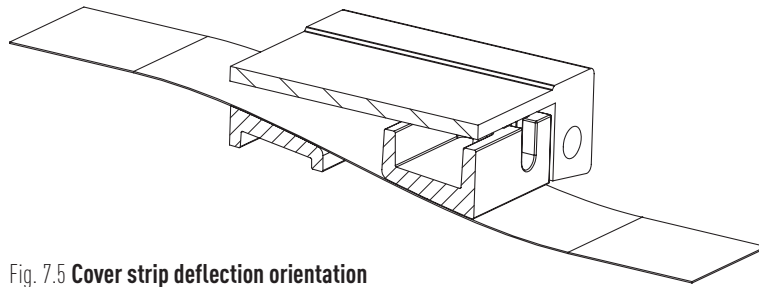

Fig. 7.5 **Cover strip deflection orientation**
- ▶ Thread the cover strip deflection onto the cover strip at both ends of the carriage. Make sure that the cover strip deflection is correctly oriented as shown in Fig. 7.5.